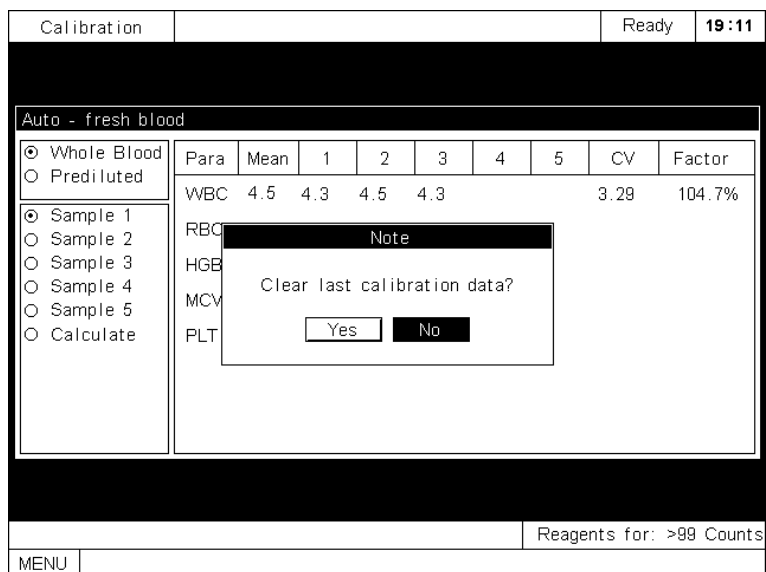

Figure5-27 Warning dialog box
- If you press [MENU], the system menu will pop up. When you enter the **Auto-fresh blood** screen again, a dialog box will pop up, as Figure5-27 shows.